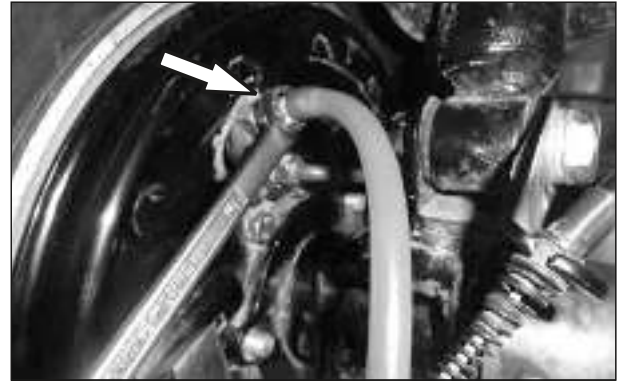

Fig. 2.80
- Do not open the bleed screw. Now Open the bleed screw  $\frac{1}{2}$  to  $\frac{3}{4}$  of a turn, sufficient to allow the brake fluid to flow freely. (Fig. 2.80). Close the bleed screw immediately.